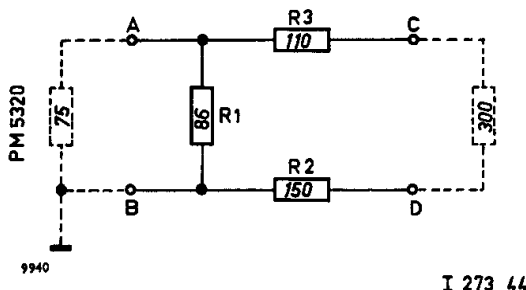

Fig. 28. Equivalent circuit of the impedance transformer
The equivalent circuit for the impedance transformer as connected between PM 5321 and a 300-Ω load is shown in Fig. 28.
**Attenuation** – The voltage attenuation from a 75-Ω source to a 300-Ω load (Fig. 28) is: